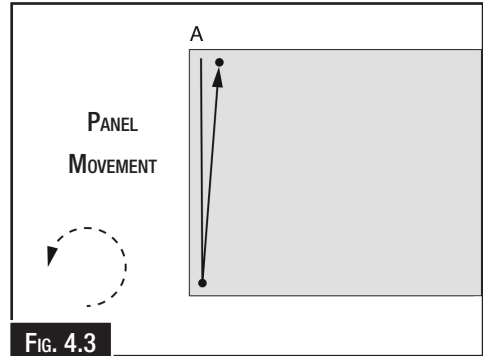

FIG. 4.3
3. Turn the workpiece counterclockwise slightly. (Fig. 4.3)